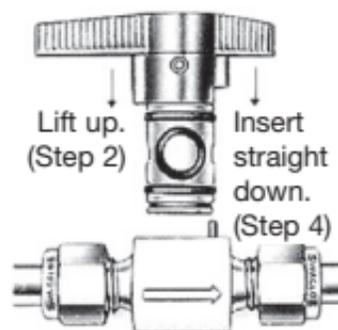

Fig 3
- Remove protective sleeve from new plug. Insert plug straight down into body. See Fig 3.
- Lift up handle to remove plug, remove the O-rings from the plug, and discard O-rings. See Fig 3.
- Insert plug straight down into body. See Fig 3.